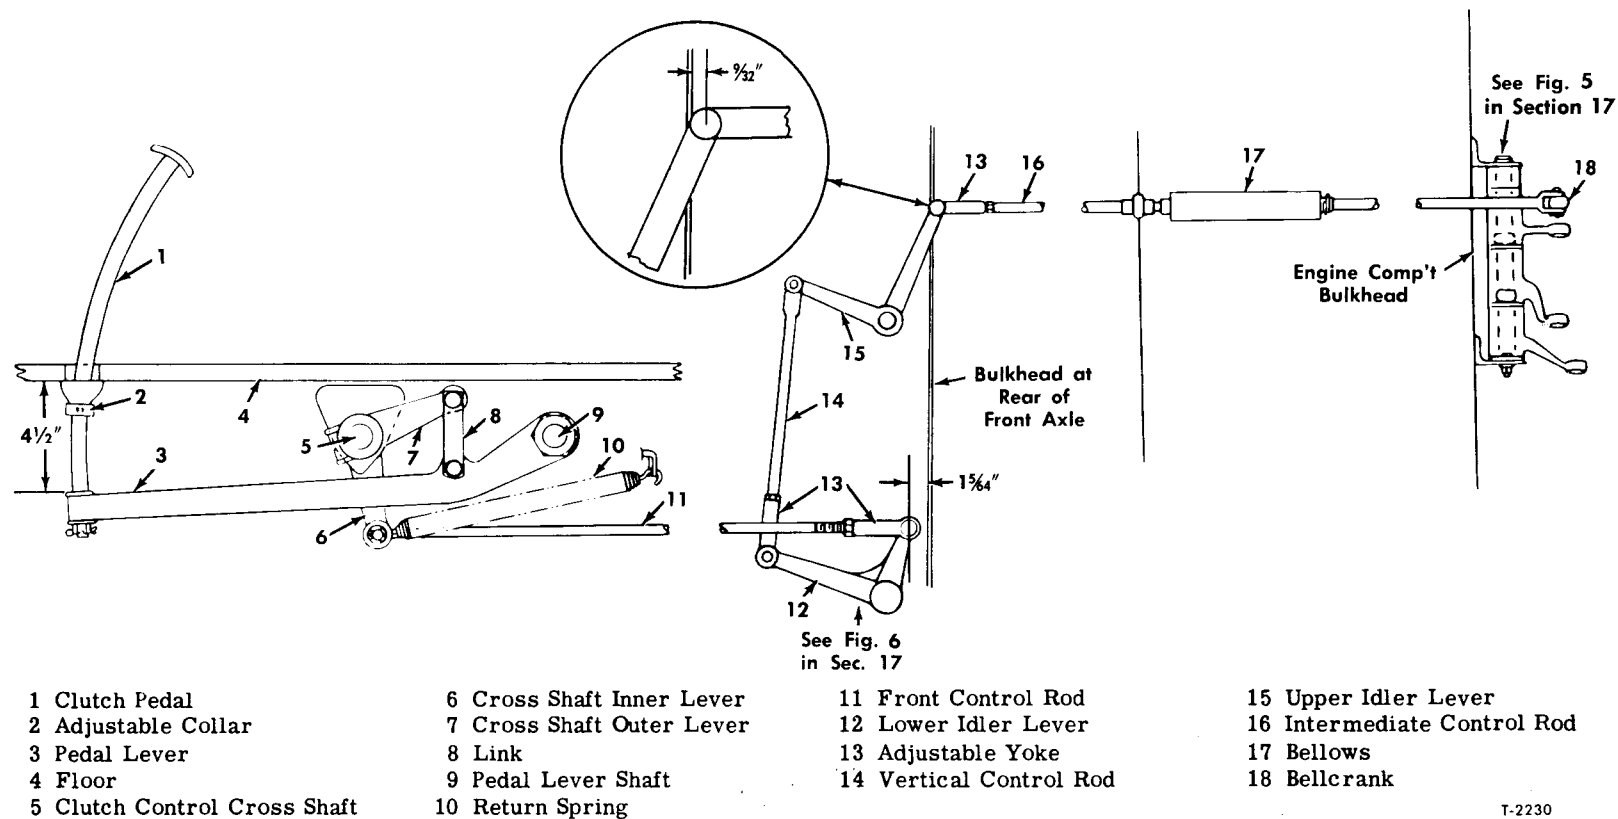
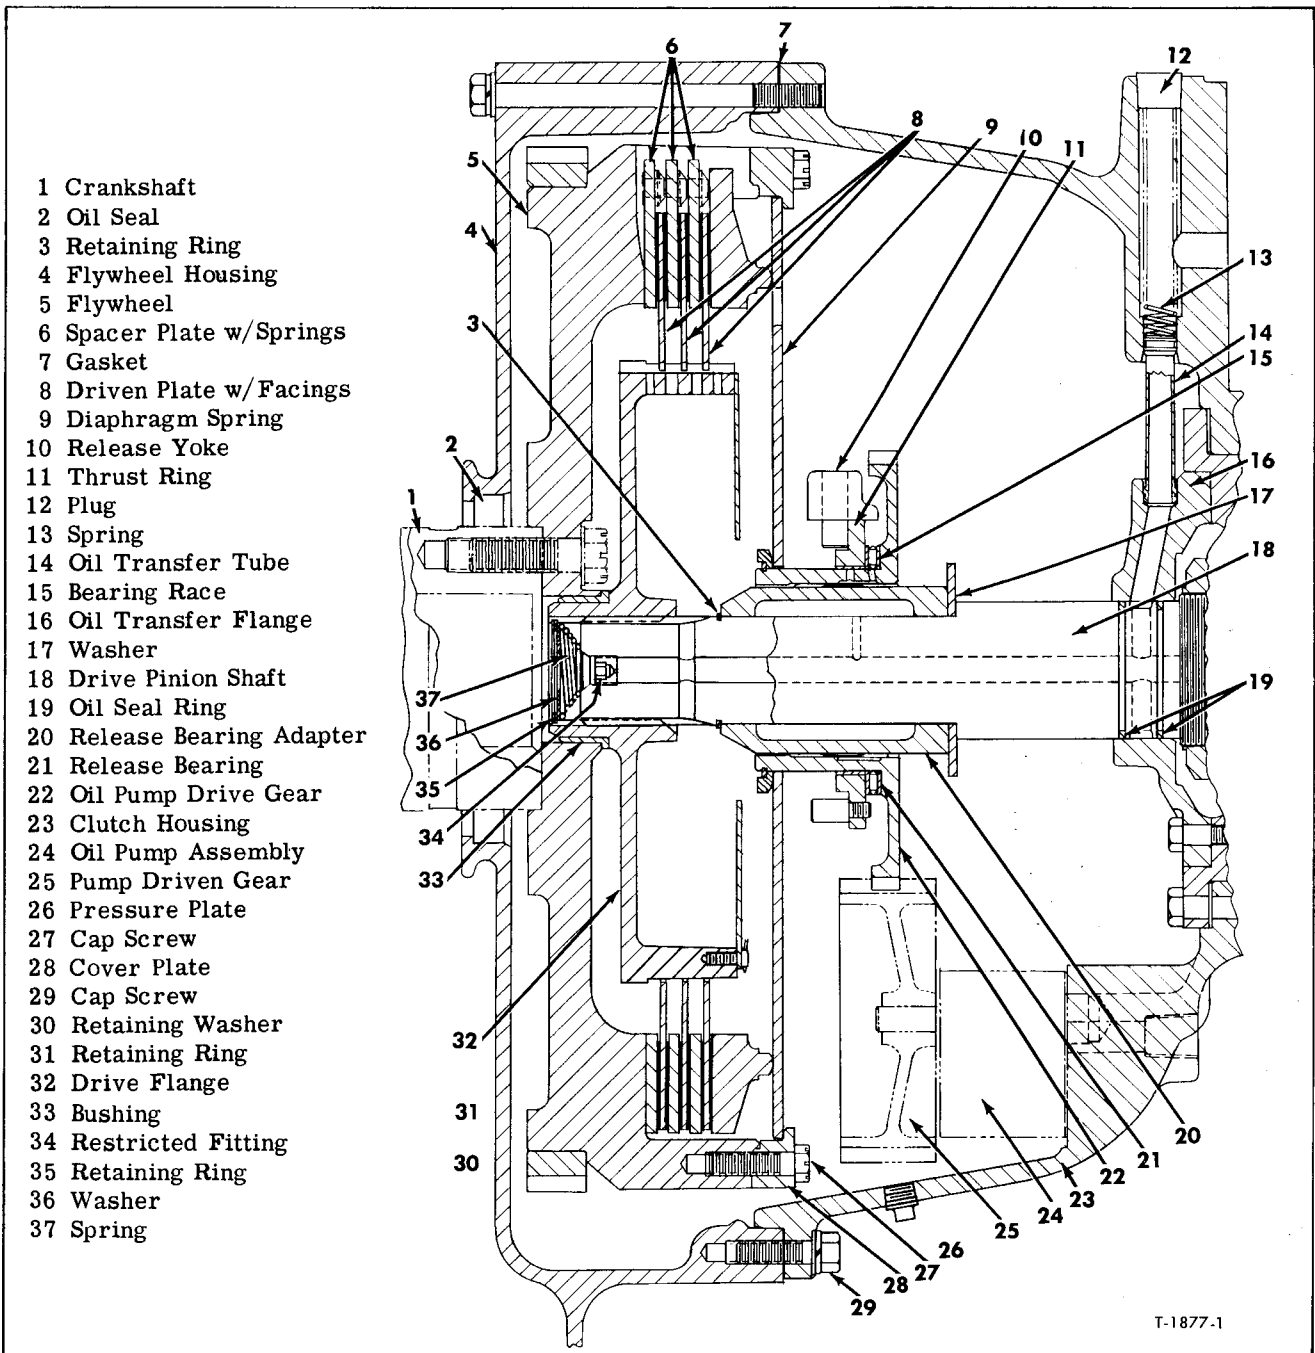

Figure 1—Clutch Control Linkage—Pedal To Engine Bulkhead
Figure 3—Sectional View of Clutch Assembly
Clutch (fig. 3) is a single-speed, three-plate, wet disc type, with manually controlled disengagement and engagement by foot-operated pedal and linkage (figs. 1 and 2). Clutch driven disc assemblies are splined to a drive flange, which in turn is splined to transmission pinion shaft. Two facings are bonded to each driven disc, which are held tightly between friction surfaces of spacer plate, pressure plate, and flywheel by a diaphragm spring when clutch is engaged.
Clutch is manually controlled by foot-operated clutch pedal, linkage, rods, and levers as illustrated in figures 1 and 2. Pedal cross shaft is mounted in self-aligning bearings. Control rods are enclosed within a loom and extend rearward through cross members under coach floor to engine compartment bulkhead. Intermediate levers (fig. 1) are used to raise linkage from lower floor level to upper floor level. Rear end of intermediate control rod is connected to a bellcrank at engine compartment bulkhead. A transverse control rod connects bellcrank at engine compartment to clutch
Key numbers in text refer to figure 1.
1. Check distance from pedal lever (3) to underside of floor. Distance should be 4-1/2 inches at point indicated in figure 1.
2. If necessary to change position of pedal lever in relation to floor, first check return spring (10) which must be in good condition, and check to see that adjustable collar (2) is held firmly against floor. Loosen set screw in collar (2) and move collar as required to provide 4-1/2-inch dimension from pedal lever to floor. Tighten set screw.
3. With clutch pedal up, measure distance from center of clevis pin at lower idler lever (12) to bulkhead.
4. If necessary loosen lock nut on rod (11), remove clevis pin, and adjust yoke (13) to provide the 1-5/64-inch dimension shown in figure 1.
5. After completion of above step, measure distance from center of clevis pin at upper idler lever (15) to bulkhead. If required, loosen lock nut
on rod (14), remove clevis pin, and adjust yoke to provide the 9/32-inch dimension shown in inset in figure 1.
(Key Numbers in Text Refer to Figure 3)
Key numbers in text refer to figure 3.